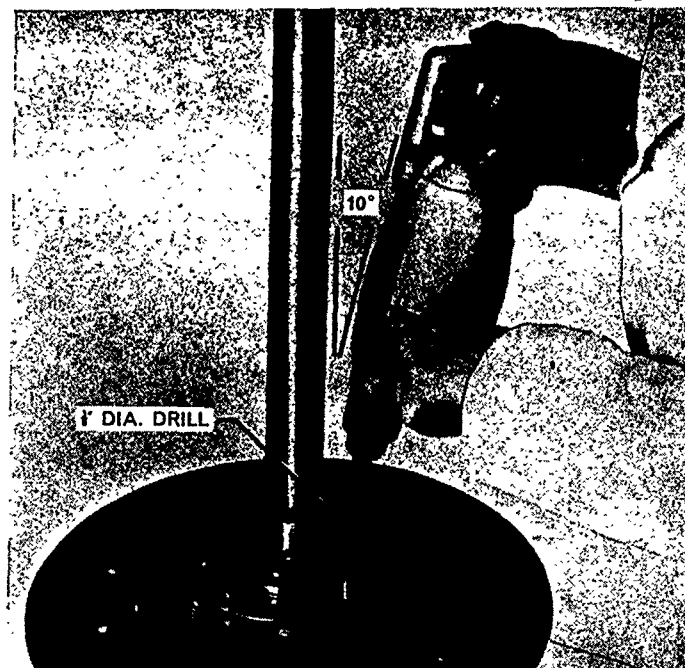

Figure 9
- b. Drill a $\frac{3}{8}$ in. (9.53 mm) pilot hole at this point at an angle of approx. 10° to the vertical, Figure 9. Contact of the drill with the bearing will be indicated by an increase in the drill speed.